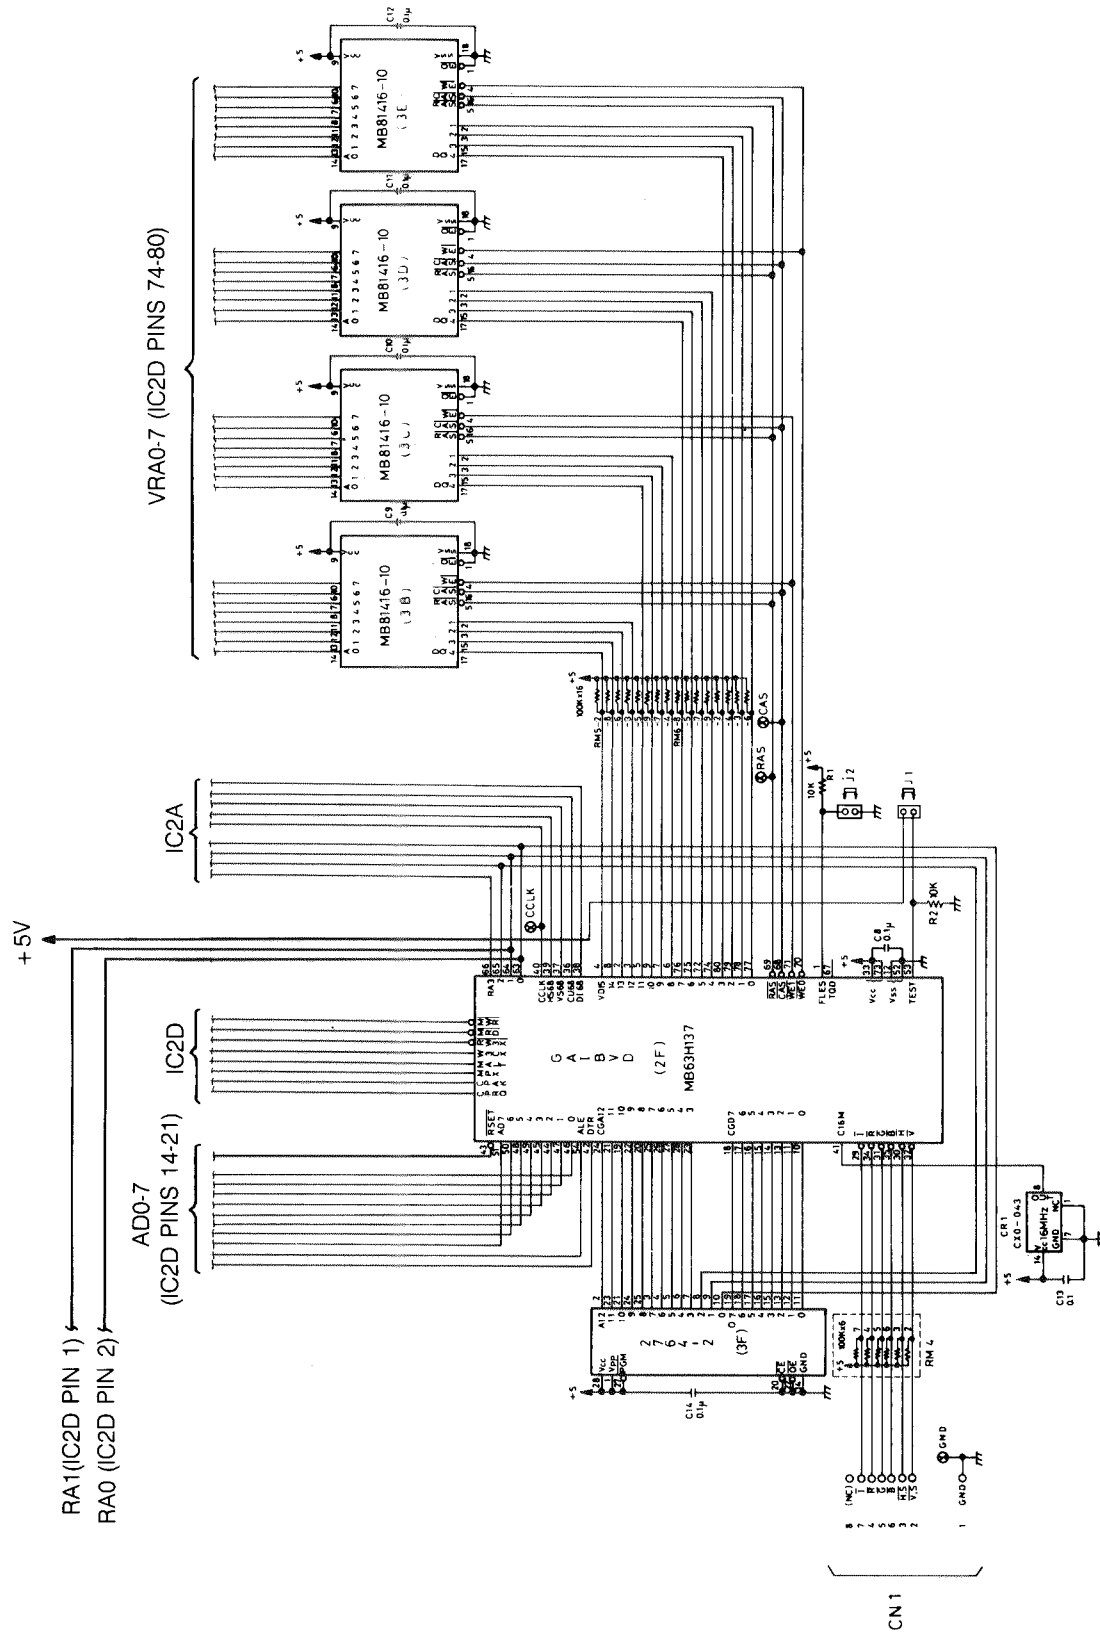

FIGURE 2-86. APX-ICRT VRAM/CHARACTER GENERATOR CIRCUIT
2.5.6 VRAM Memory and Character Generator Circuits (Figures 2-86 through 2-90)